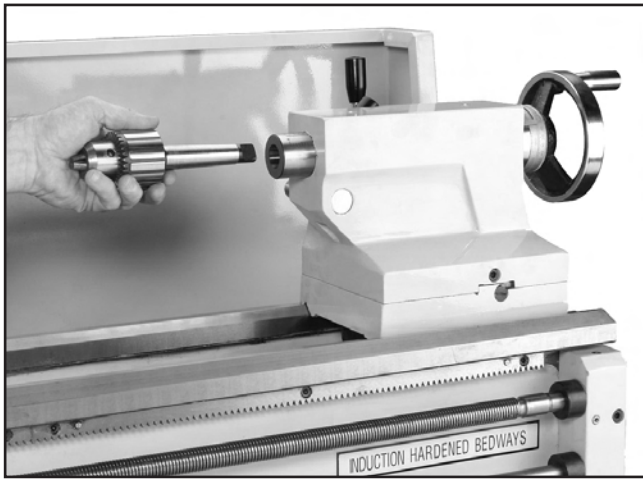
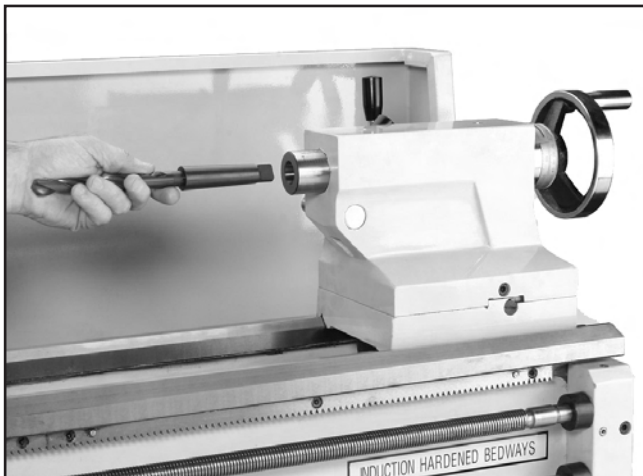

Figure 31. Setting up tailstock for drilling.
Figure 32. Tapered shank drill fitting into quill taper.
3. Insert a tapered drill arbor (**Figure 31**), or the tapered drill shank (**Figure 32**), into the quill until the taper is firmly seated. The matching tapers hold the arbor.